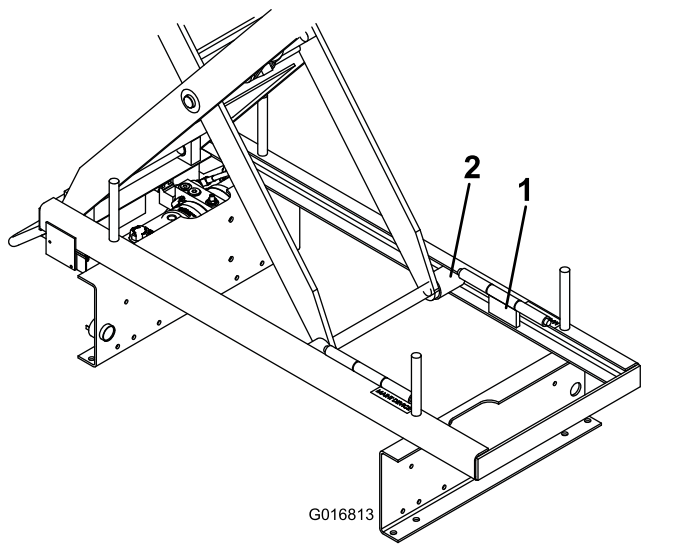

Figure 24
7. Rotate both of the safety locks, from their storage positions, until they rest inside the base frame, in the path of the scissors rollers (Figure 24).